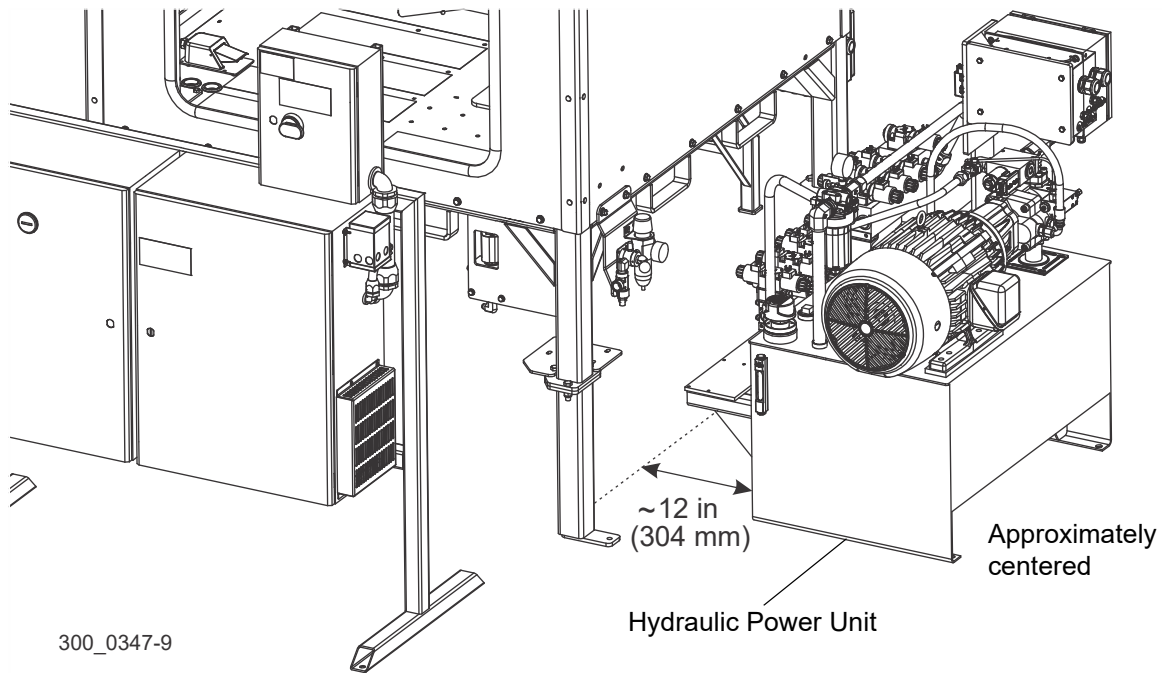

FIG. 3-29
1. Position the hydraulic power unit approximately 12" away from the operator station and approximately centered, as shown in Figure 3-29.
See Figure 3-29.